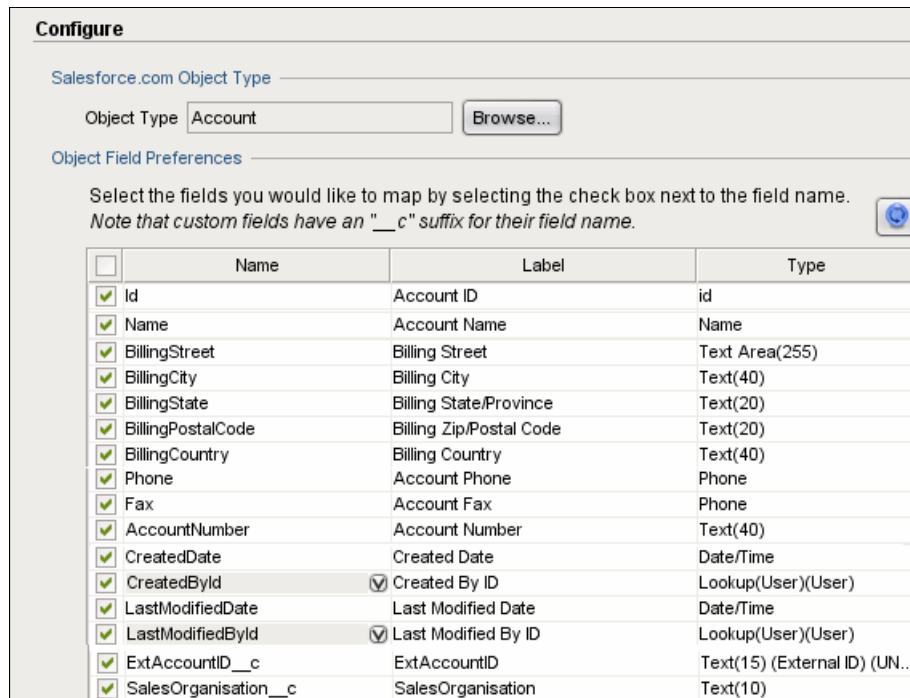

Figure 10-94 Get Updated Objects—Fields
- b. The Salesforce.com connector returns the list of fields that are available in the Account object. This list includes standard and custom fields. Select the fields that you need for the integration. Be aware that the more fields that you select the more performance overhead you produce. At a minimum, however, select the fields shown in Figure 10-94 because you need them for the integration. The list in the figure is reduced for better visibility.